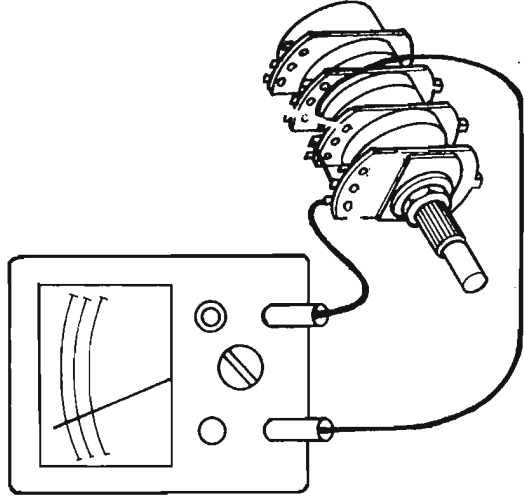

Fig. 2-9-1 **BALANCE** Control Setting
- (a) With a piece of hook-up wire, solder between center terminals Ⓑ and Ⓑ', measure a resistance between terminals Ⓐ and Ⓒ' by an ohmmeter. See Fig. 2-9-1 on next page.